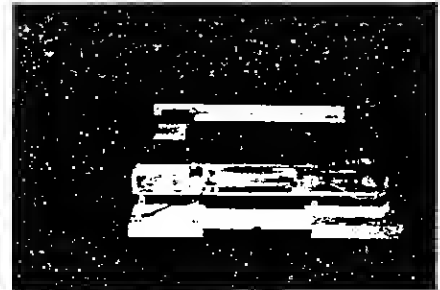

Fig. 3-9. Front Bezel with Tab Positions
3.5.1 Place the front bezel in its place within the bottom case, being careful to line up the round holes in the tabs with the matching extensions. See Fig. 3-9.